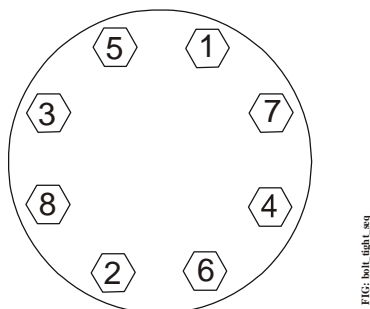
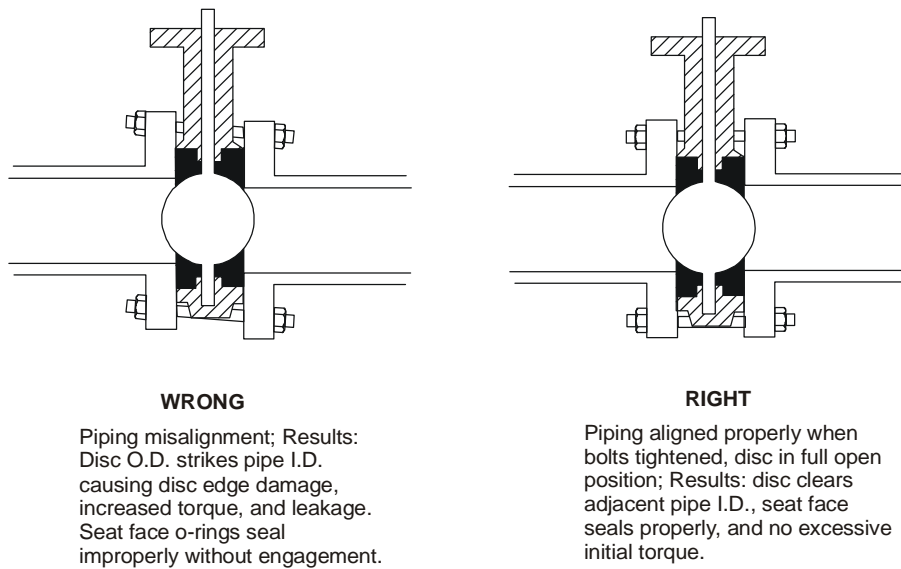

Figure 1: Bolt Tightening Sequence
Figure 3: Pipe Alignment and Disc Orientation
7. Remove the flange spreaders and tighten the flange bolts or cap screws according to the sequence in Figure 1.
8. Stroke the valve fully closed and fully open while checking for proper disc clearance and proper pipe alignment (see Figure 3).
11. Slowly stroke the fully linked three-way assembly two complete cycles while checking for proper disc clearance and pipe alignment (see Figure 3). Tighten all flange bolts and cap screws securely according to the sequence in Figure 1.